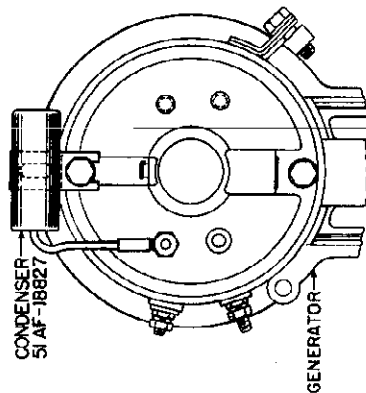

Figure 1
1. Loosen (do not remove) the top assembly bolt on the rear end plate of the Generator. Slide the bracket of Condenser 51AF-18827 under the bolt and tighten (see figure 1). Connect the lug end of the Armature terminal of the Generator.